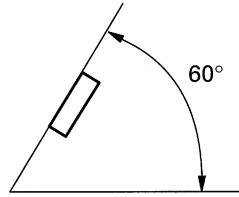

Fig. 5
- If installation angle exceeds 60° from horizontal, the unit might not give its optimum performance. (Fig. 5)